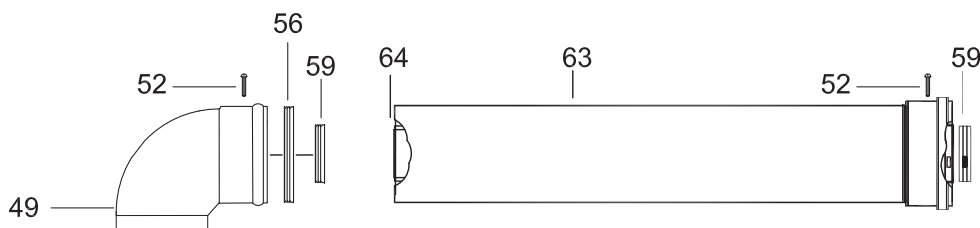

Fig.18
Working above the boiler pull the flue exhaust duct towards the boiler in order to engage tube (fig. 18 item 61) into its header.
Extension kits are available to order for flue extension of up to a total overall length of 8 metres (fig.18).
Measure the distance between the flue bends or the flue/terminal assembly. The measurements should be taken from the outer edge of the flue and bend (fig. 18).